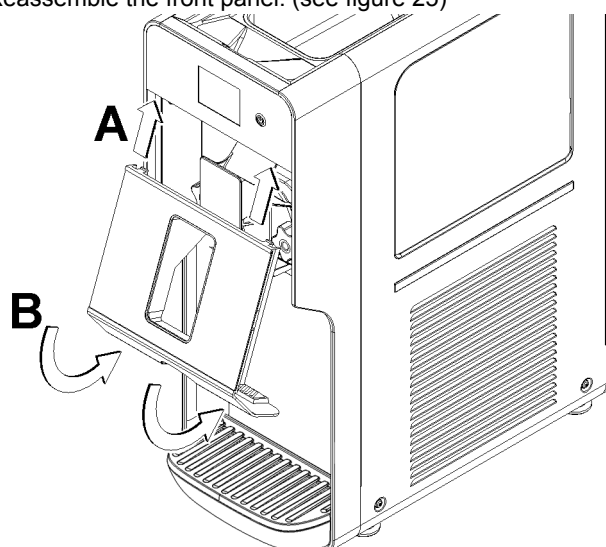

figure 25
- 6 Reassemble the front panel. (see figure 25)